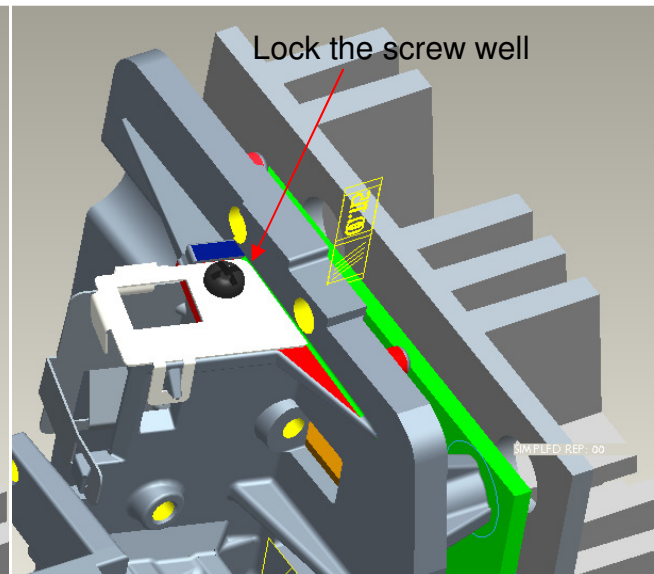

Fig. 1-7
- (6) Lock the screw of Baffle LP well then release the hand (Fig. 1-7),